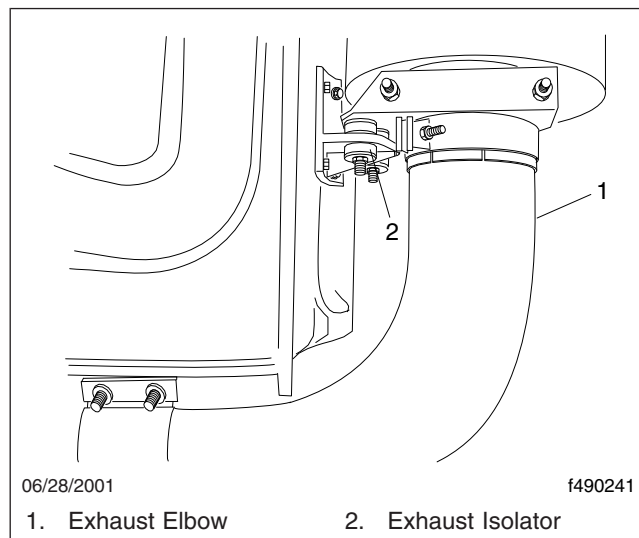

Fig. 7, Exhaust Isolator
7. Check the isolator at the base and the top of the exhaust stack (see **Fig. 7**) for cracking, damage, and dry rot. Replace as needed.